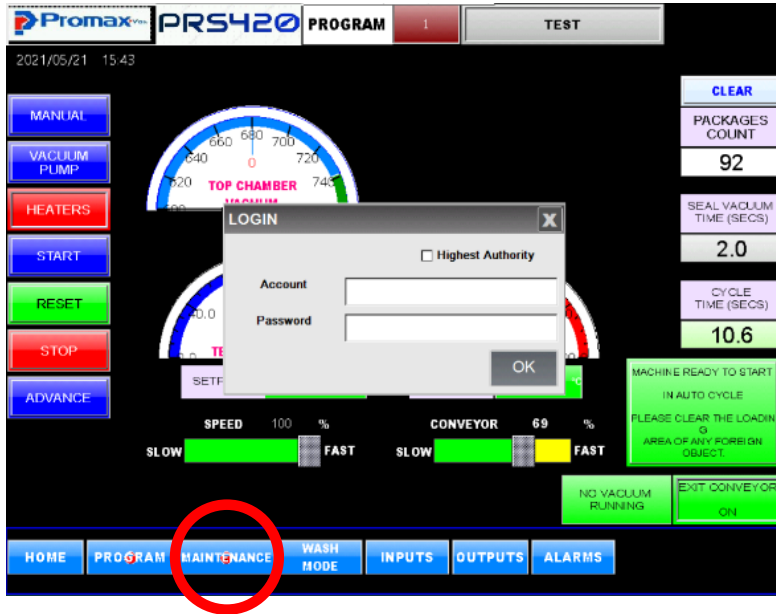

Fig.OP-5.26
-Press the Maintenance button on the left side of the home screen (Fig. OP-5.26) and a password screen will appear .